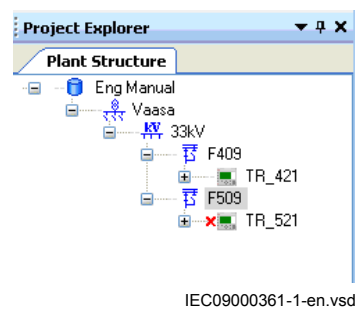

Figure 9: Plant structure showing IED TR_421 in online mode and IED TR_521 in offline mode
It is possible to see whether the inserted IED is in offline mode or online mode from the plant structure. A red color cross before the IED symbol indicates the offline mode as shown in Figure 9.
6. Cross-check that the IED whose IP address has been inserted has been detected online by PCM600, see Figure 9.